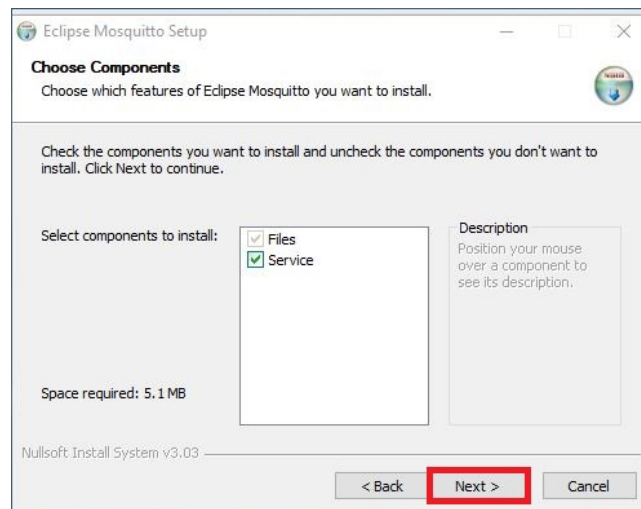

Figure 4.6: Select Fast Mode components
6. Click "Next >" to confirm the components you want to install, as shown in Figure 4.6.